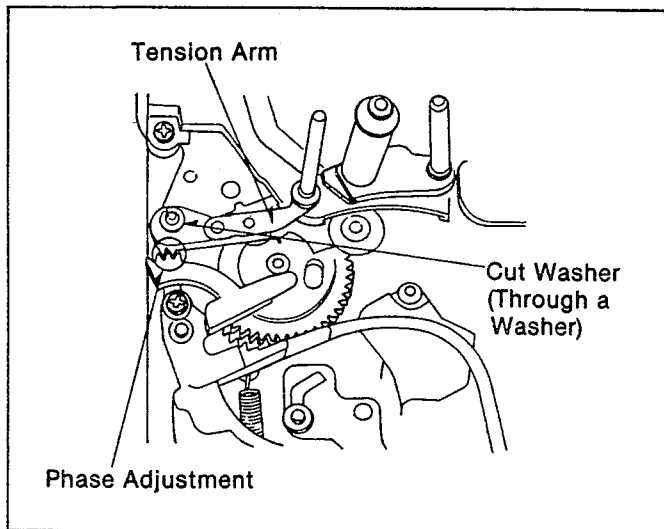

Fig. M37
- (2) Set the Tension Spring in the Lock Base Unit.
- (3) Insert the Washer and then install the Tension Arm so that make sure of phase between the Tension Arm and Tension Band as shown in Fig.M37.